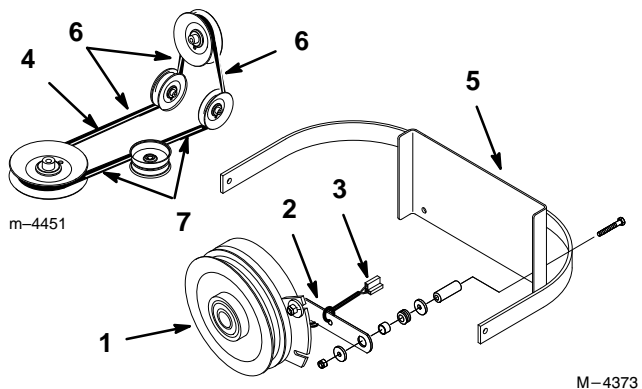

Figure 46
2. Remove the clutch retaining strap from machine frame and unplug clutch terminal from wire harness (Fig. 46).
3. Remove PTO drive belt from rear idler arm and front idler pulley assembly. Remove the PTO drive belt (Fig. 46).
4. Place new drive belt over clutch, around rear idler pulley, installed into rear idler arm assembly, installed into front idler pulley assembly and onto top center pulley (Fig. 46).
IMPORTANT: Check the amount of twist in belt between pulleys. Make sure it is only what is specified in figure 46.
5. Install clutch retaining strap and plug clutch terminal into main wire harness (Fig. 46).